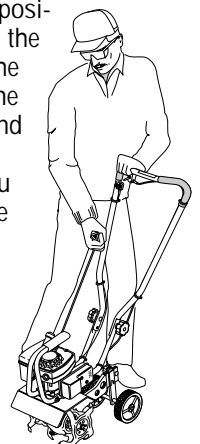

Figure 8
2. Stand with your feet positioned safely away from the tines (Figure 8). Hold the upper handlebar with one hand. Use the other hand to pull the recoil start rope out slowly until you feel resistance. Let rope rewind slowly. Then, quickly pull the rope all the way out. Do this up to ten (10) times. Let the start rope rewind slowly and completely each time.